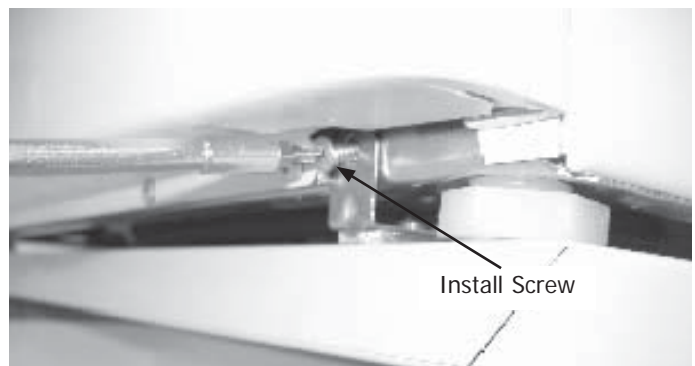

Figure 2-37.
7. With pedestal drawer open for better access, install the two #10 screws through the front brackets in the pedestal into the dryer base as shown in Figure 2-37.